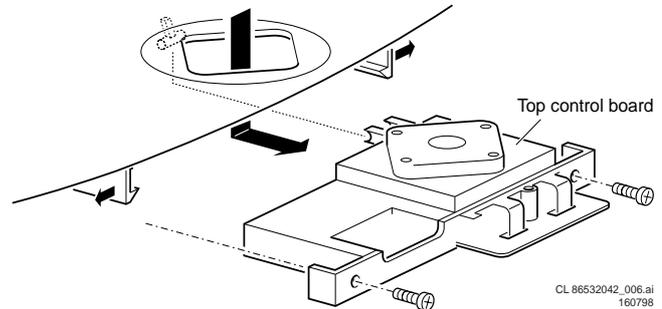

Figure 4-6
1. See figure 4.6. Pull 2 clamps to the outer side.